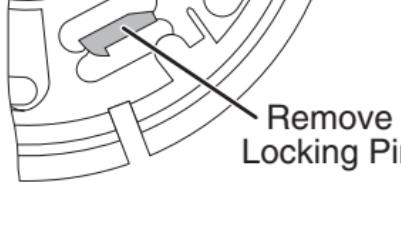

FIGURE 7
To make the smoke alarm somewhat tamper resistant, a locking pin has been provided in the mounting bracket of the unit. It will help deter individuals from removing the smoke alarm from the bracket. See Figure 7.
1. Remove the break-away locking pin from the mounting bracket of the unit by rocking pin back and forth. See Figure 7.